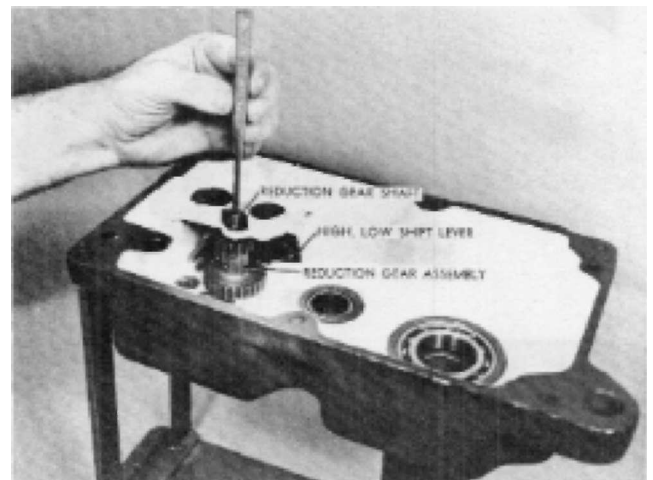

FIGURE 9
1. Install the high-low range shift lever (Figure 9) in the hole of the right case below the shift rail supports.
Position the reduction gear assembly in place with the large gear down and insert the reduction gear shaft, driving it in place from the inside of the case, as shown in Figure 9.